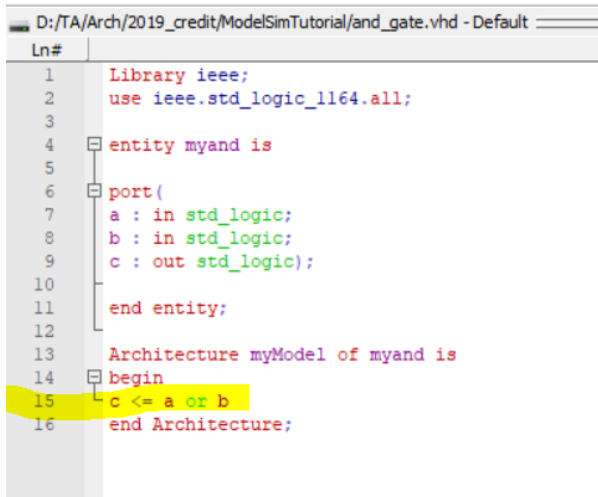

Figure 6: Edit File
6. Double click on the error line in the transcript will open another window Fig.6. Notice the red line mentioning the file containing the error, the line number between braces and the description of the error.
8. Read the error carefully it says expected " ; " near end in line (16), that means that the previous line is missing a semicolon, check line 15 Fig.6.